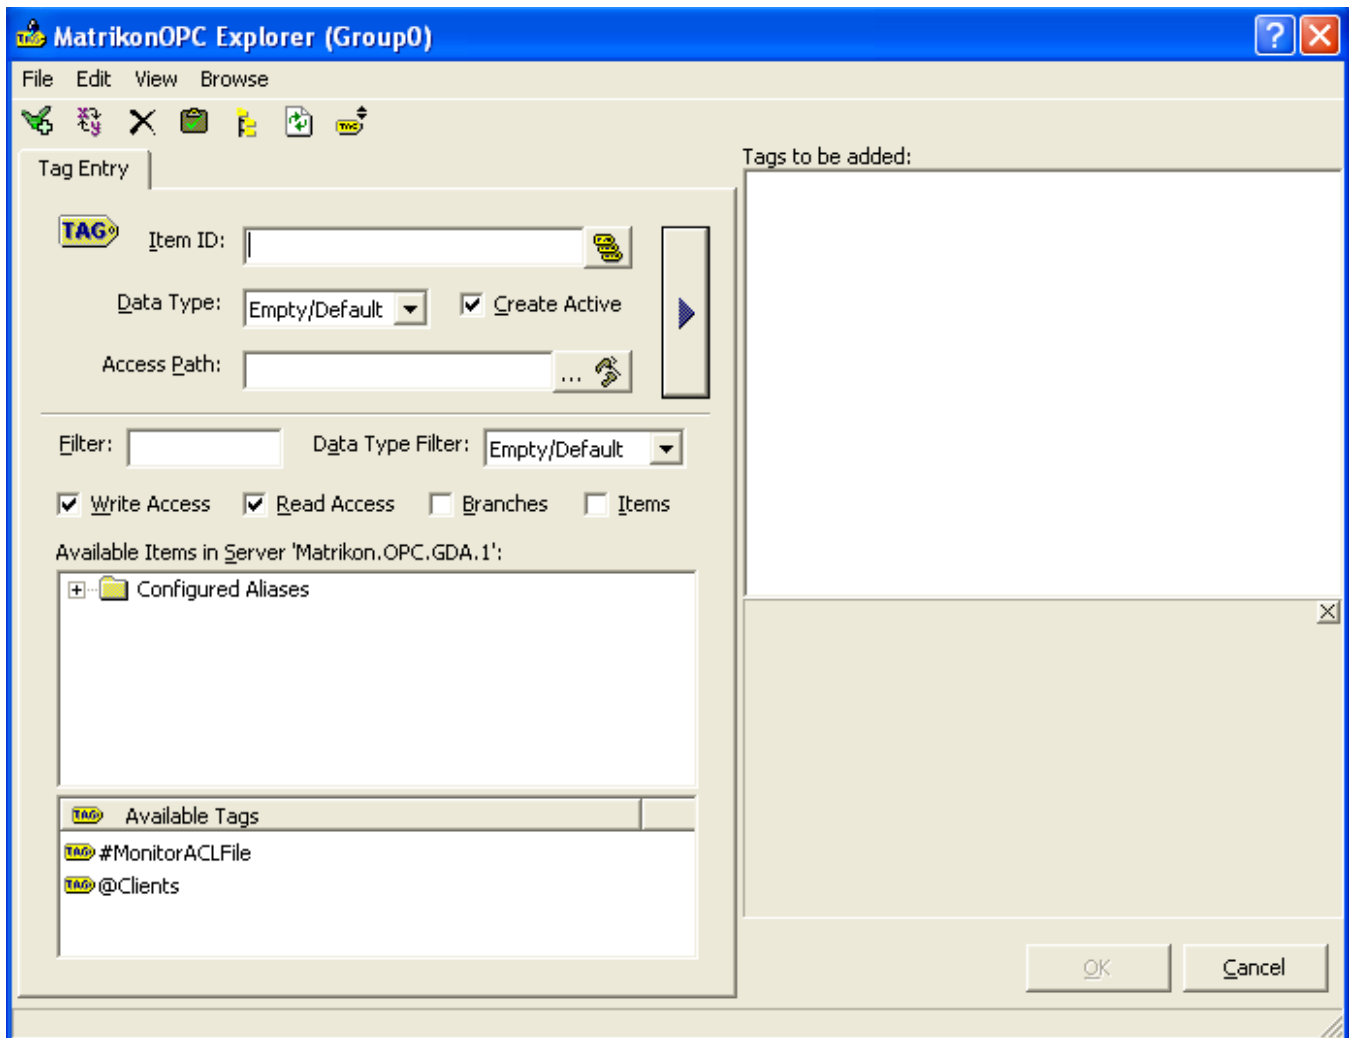

Figure 103 - Matrikon OPC Explorer (Tag Entry Tab)
9. Click on the **OK** button. The **Add Group** window closes and the **Tag Entry** tab (Figure 103) is displayed on the **Matrikon OPC Explorer (Group0)** screen.